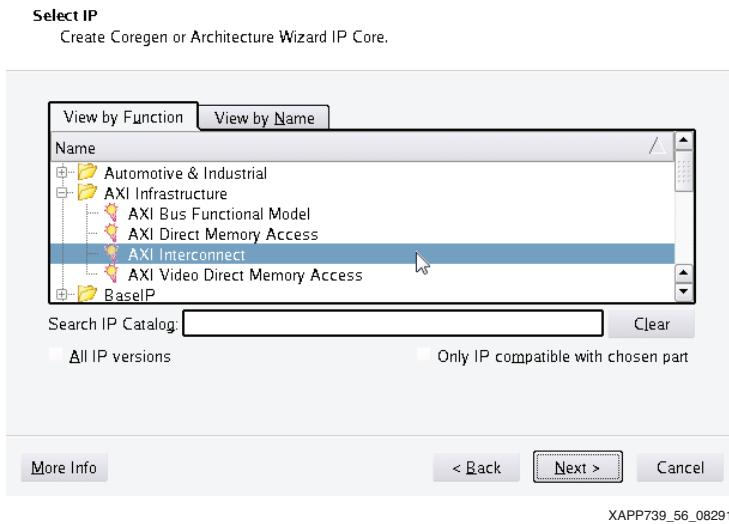

Figure 56: New Source Wizard - Select IP Menu
48. In the Select IP window, click the **View by Function** tab, then select **AXI Infrastructure > AXI Interconnect** (Version 1.03.a) from the IP catalog. Click **Next** (Figure 56).